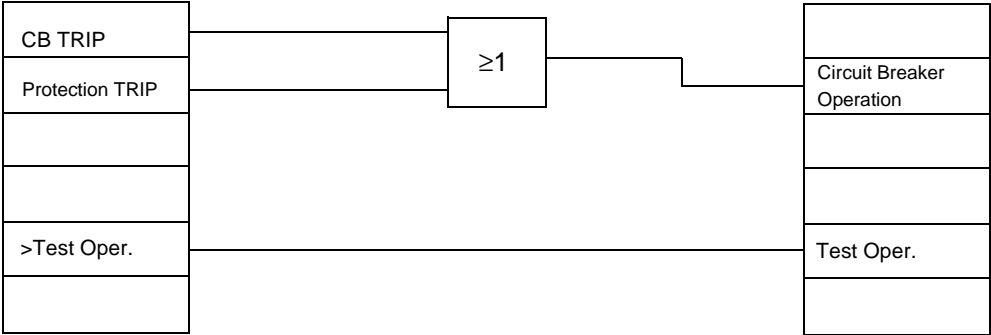

Figure 5-39 Additional logic as an example for a PLC\_1 event-driven logic condition
By using slow PLC processing, an additional, event-driven logic condition may be constructed which delivers indications regarding switch-gear operating status. These indications may be passed externally via LEDs or relay contacts, or used as input signals for further logical links. In the example (see Figure 5-39), the output information indication from the circuit breaker interlocking logic (CB TRIP) and a joint indication from all protective element trip signals (Protection TRIP) are linked to a new "Circuit Breaker Operation" message. Furthermore, the single point indication (SP) **Test Oper**, which may be coupled via a binary input, is linked with an internal reusable "Test oper." message.